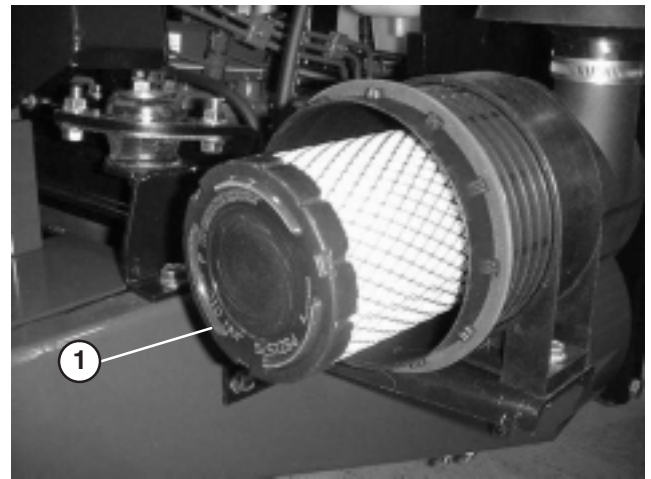

Figure 35
2. Gently slide primary filter (Fig. 35) out of air cleaner body to reduce the amount of dust dislodged. Avoid knocking filter against air cleaner body.